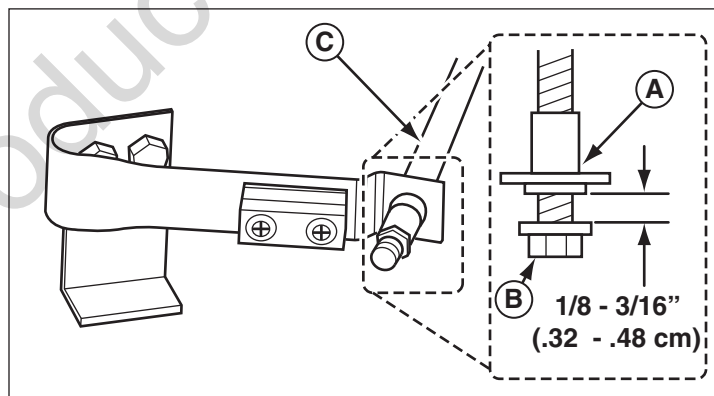

Figure 23. Adjusting the Engagement of the Blade Brake
2. With the blade engagement lever in the DISENGAGED position, measure the distance between the end of the bushing (A, Figure 23) and the nylock nut (B). This measurement should be between 1/8" to 3/16" (.32 cm to .48 cm). If the measurement is correct skip to Step #4. If not, proceed with step #3